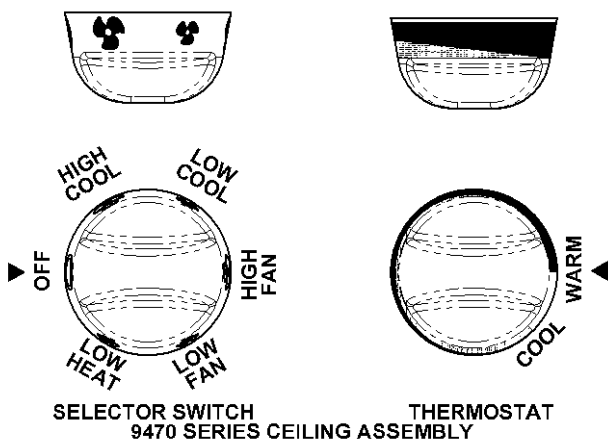
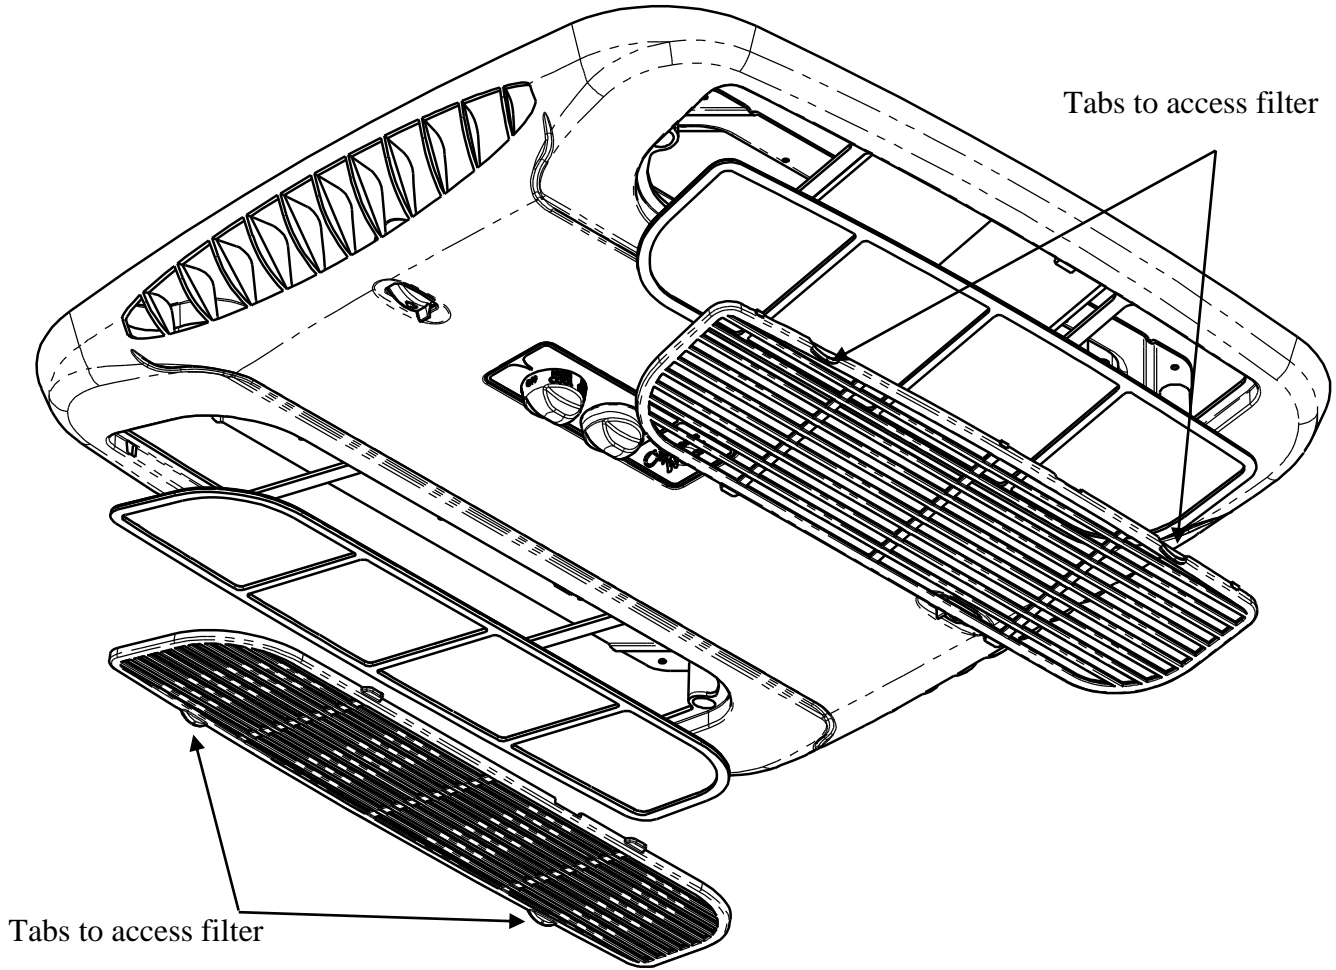

FIGURE 1
FIGURE 2
- A. The Selector Switch – The selector switch determines mode of operation. By rotating the selector switch, the operator can obtain any system function desired. Figure 1 shows selector switch and lists all available functions. 9400 ceiling assemblies will have the knobs at the bottom of the ceiling assembly (See Figure 2).
- B. The Thermostat (temperature control) – In the cooling mode, the thermostat regulates the “ON” and “OFF” temperature setting at which the compressor will operate. The thermostat also controls the “ON” and “OFF” temperature settings of the heater assembly (See Figure 1).
I. For Cooling (Refer to Figure 1, page 3).
V. For Air Circulation Only (Refer to Figure 1, page 3).
1. Pull down on the grille tabs until they snap out of place to remove the grilles from the ceiling assembly (See Figure 2).
3. Take filters out and either clean or exchange them with other filters (See Figure 2).